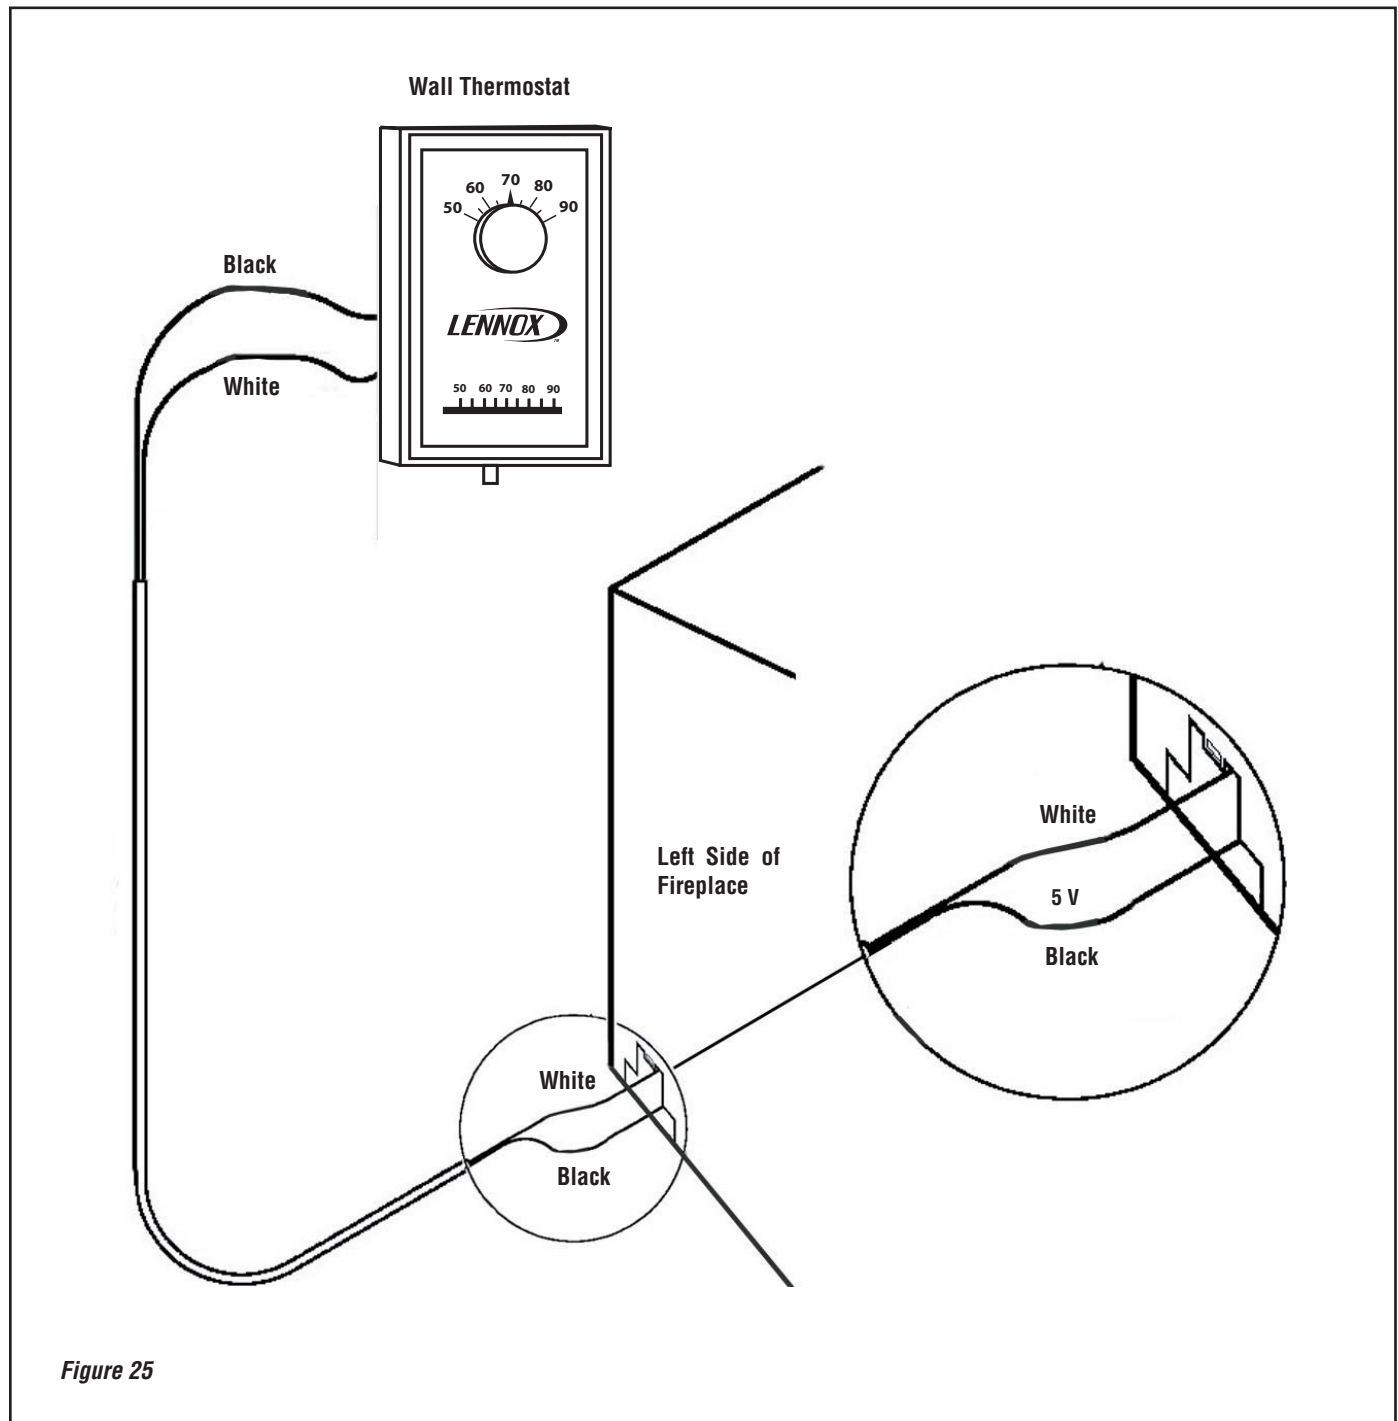

Figure 25
4. Connect the wires to the wall thermostat as shown in **Figure 25**. Follow instructions provided with wall switch kit.